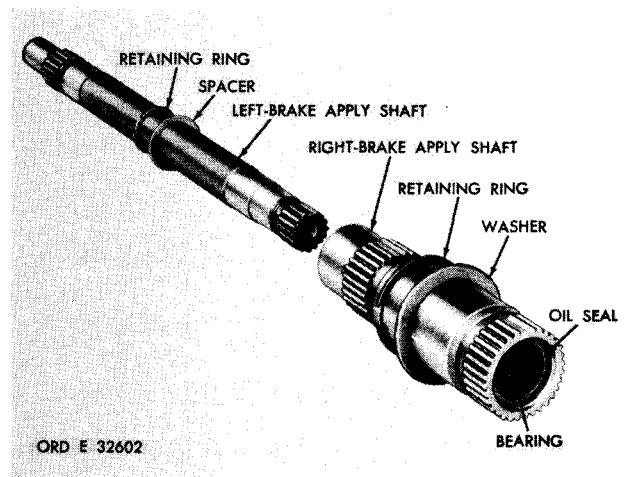

Figure 183. Left- and right-brake apply shafts and component parts
ae. Separate the right-brake apply shaft from the left-brake apply shaft (fig. 183).
af. Remove washer and retaining ring from the right-brake apply shaft (fig. 183).
ag. Do not remove the oil seal or bearing from the right-brake apply shaft unless replacement is necessary (fig. 183). If necessary, remove the seal and bearing.
ah. Remove spacer and retaining ring from the left-brake apply shaft (fig. 183).
r. Install the retaining ring and spacer on left-brake apply shaft (fig. 183).
s. If bearing or oil seal was removed, install in right-brake apply shaft (fig. 183). Install bearing, pressing against the numbered side of the cage, 0.960 inch below the end of the shaft. Install the new replacement oil seal, lip side of seal toward the inside, into the shaft end until it is firmly seated against its shoulder in the shaft.
t. Install the washer and retaining ring on the right-brake apply shaft (fig. 183).
u. Install the right-brake apply shaft assembly onto left-brake apply shaft (fig. 183).
Note. Be careful to avoid damaging the oil seal in the right apply shaft on the splines of the left apply shaft (fig. 183).